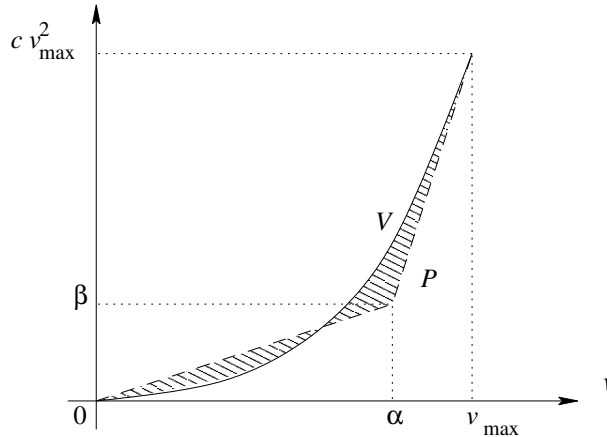

Figure 2: The quadratic function  $V$  and its PWA approximation  $P$ .
**Step 2:** Construct a piecewise affine (PWA) approximation  $P$  with 2 regions of the friction force curve  $V : [0, v_{\max}] \rightarrow \mathbb{R} : v \mapsto v^2$  as follows. We want a perfect match for  $v = 0$  and  $v = v_{\max}$ . This implies that we still have two degrees of freedom, i.e., the coordinates  $(\alpha, \beta)$  of the middle edge point of the PWA curve (see Figure 2). Now determine  $\alpha$  and  $\beta$  such that the *squared* area between  $V$  and  $P$  (i.e., the squared area corresponding the hashed region in Figure 2) is minimized, **or equivalently, such that**